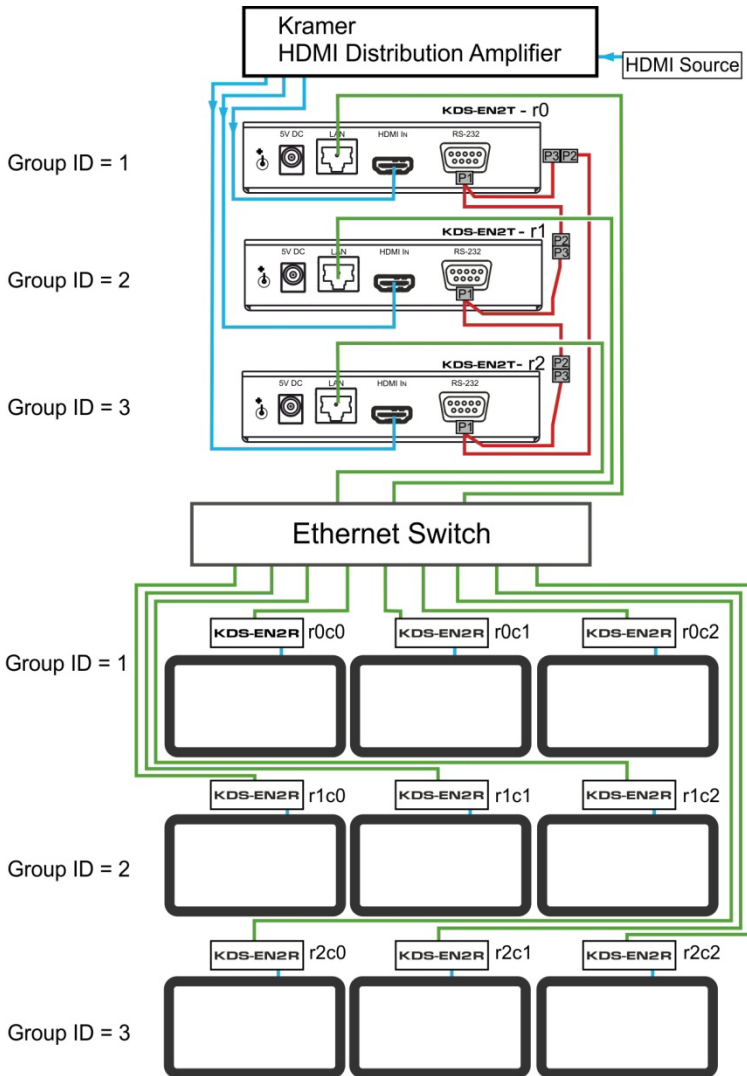

Figure 7: Video Wall Application
7. If required, on each unit connect the 5V DC power adapter to the power socket and connect the adapter to the mains electricity (not shown in Figure 7)
1. Set a 3x3 TV Wall using three **KDS-EN2T** hosts and nine **KDS-EN2R** clients as illustrated in Figure 7.